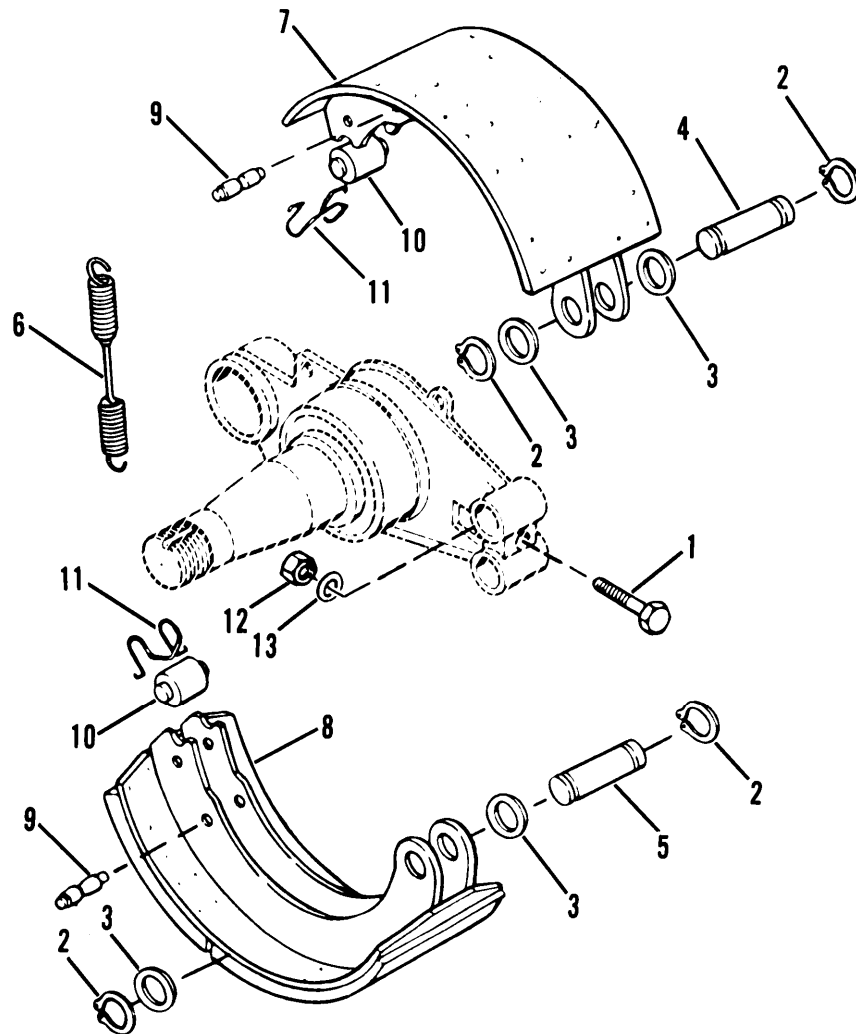

Figure 4-39. Brake Shoes
- (2) Loosen spider bolt (1, fig. 4-39) when working on M871 semitrailer.
- (3) Remove anchor pin retaining rings (2) and anchor pin washers (3).
- (4) Drive out anchor pins (4 and 5).
- (5) Remove spring (6) from upper shoe (7) and lower shoe (8).
- (6) Remove spring pin (9) from both shoes (7 and 8).
- (7) Remove rollers (10) and roller retainers (11).
- (1) Install spider bolt (1, fig. 4-39), washer (13) and spider nut (12). Do not tighten.
- (2) Install rollers (10) and roller retainers (11).
- (3) Place shoes (7 and 8) in position. Install anchor pins (4 and 5).
- (4) Install anchor pin washers (3) and anchor pin retaining rings (2).
(5) Install spring pins (9) to both shoes (7 and 8).
(6) Install spring (6).